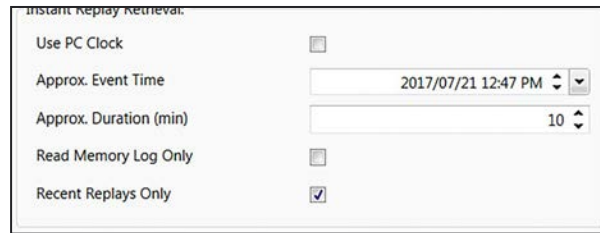

Figure 106. The Instant Replay Retrieval dialog box.
- STEP 5.** Checking the **Recent Replays Only** check box limits the number of event files checked and will speed up retrieval time. If the event occurred more than two hours before the retrieval attempt, this option should not be checked. See Figure 106 on page 109.